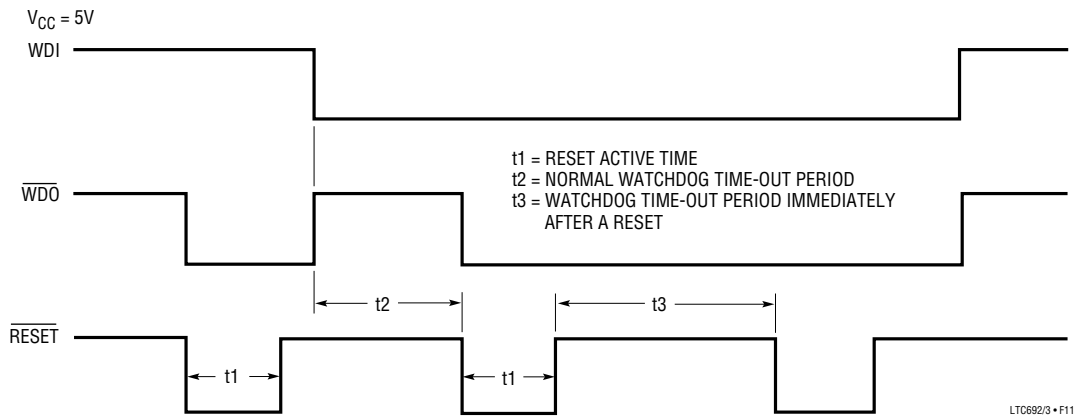

Figure 11. Watchdog Time-out Period and Reset Active Time
time-out period (see Figure 11). The reset active time is adjustable on the LTC693. An external pushbutton reset can be used in connection with the RESET output. See Pushbutton Reset in the Applications Information section.
**WDI**: Watchdog Input. WDI is a three level input. Driving WDI either high or low for longer than the watchdog time-out period, forces both RESET and WDO low. Floating WDI disables the Watchdog Timer. The timer resets itself with each transition of the Watchdog Input (see Figure 11).
**WDO**: Watchdog Logic Output. When the watchdog input remains either high or low for longer than the watchdog time-out period, WDO goes low. WDO is set high whenever there is a transition on the WDI pin, or LOW LINE goes low. The watchdog timer can be disabled by floating WDI (see Figure 11).